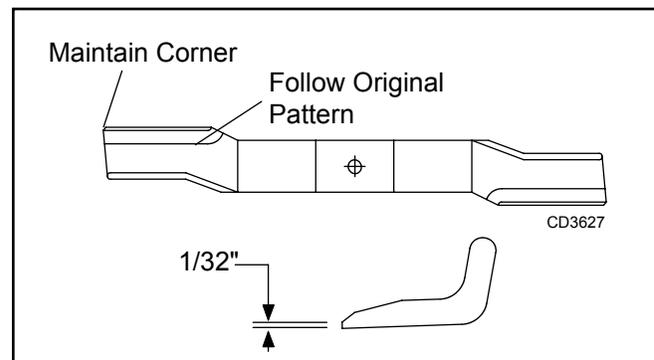

Figure 16.
- Remove cap screw (4) and washer (3) Figure 16.
- Remove blade (2)